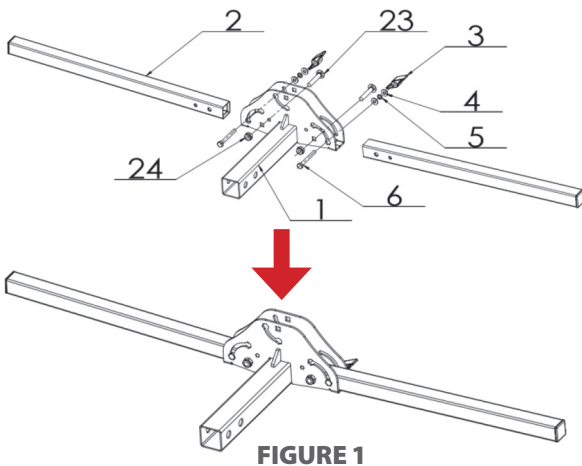

FIGURE 1
Assemble the primary frame by connecting the Support Base Assembly (part #1) and (2) Horizontal Tubes (part #2) using (2) 5/16" knobs, (4) 5/16" flat washers, (2) 5/16" spring washers, (2) 5/16" hexagon bolts, (2) M10 Carriage bolts and (2) M10 Locknuts (parts #3, #4, #5, #6, #23 and #24). (See **Figure 1**)